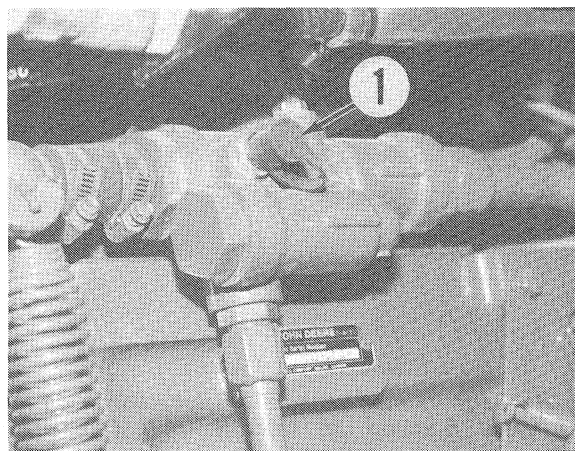

Fig. 101—To check clutch lubrication pressure, attach a 0-60 psi (0-500 kPa) pressure gage to test port (1) of return oil manifold. Refer to text.
96. LUBRICATION PRESSURE CHECK. The lubrication pressure can be checked by connecting a 0-60 psi (0-500 kPa) pressure gage at test port (1—Fig. 101) on return oil manifold. Pressure should be checked with engine operating at 1500 rpm and also at 2000 rpm. Specified pressure at 1500 rpm is 25 psi (170 kPa) with oil at 110° F (43° C) or 17 psi (120 kPa) with oil at 150° F (66° C). Specified pressure at 2000 rpm is 43 psi (290 kPa) with oil at 110° F (43° C) or 28 psi (190 kPa) with oil at 150° F (66° C).